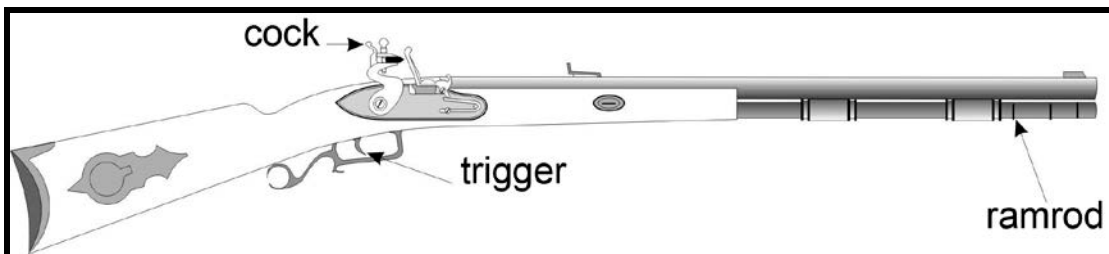

Figure 5. Flintlock rifle
2. For centuries, flintlocks were the standard firearms (Figure 5). During this time, many improvements were introduced. One such improvement of the flintlock over the matchlock and wheel lock was the development of a more reliable ignition system.